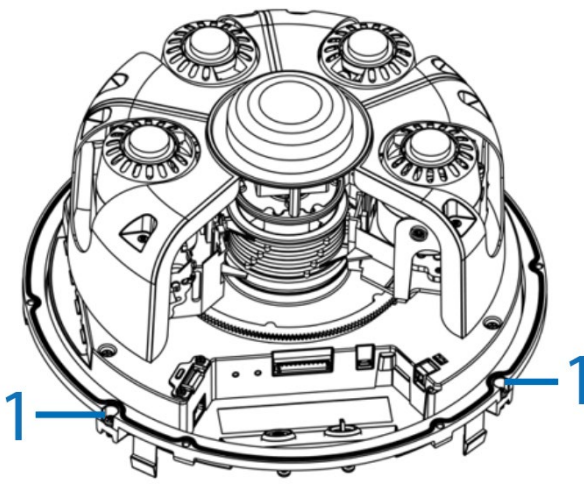

Figure 8
14. Snap the camera lens module into the mounting plate and secure the two screws (1) (Figure 8) on the camera lens module into the two holes on the mounting plate using the T20 Torx wrench.
- **Failure to correctly secure the two screws (1) (Figure 8) may compromise the camera's IP rating, and result in water ingress.**